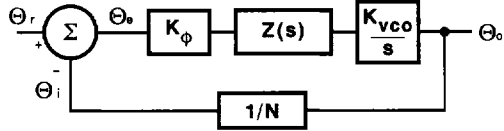
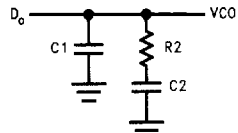

FIGURE 2. PLL Linear Model
FIGURE 3. Passive Loop Filter
A linear control system model of the phase feedback for a PLL in the locked state is shown in *Figure 2*. The open loop gain is the product of the phase comparator gain (K_{ϕ}), the VCO gain (K_{VCO}/s), and the loop filter gain $Z(s)$ divided by the gain of the feedback counter modulus (N). The passive loop filter configuration used is displayed in *Figure 3*, while the complex impedance of the filter is given in equation 2.